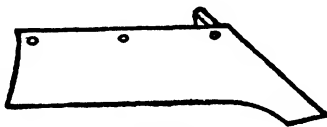

Fig. 83
14. Trim the point with a hot cutter until it conforms in shape to Fig. 83, and sharpen.